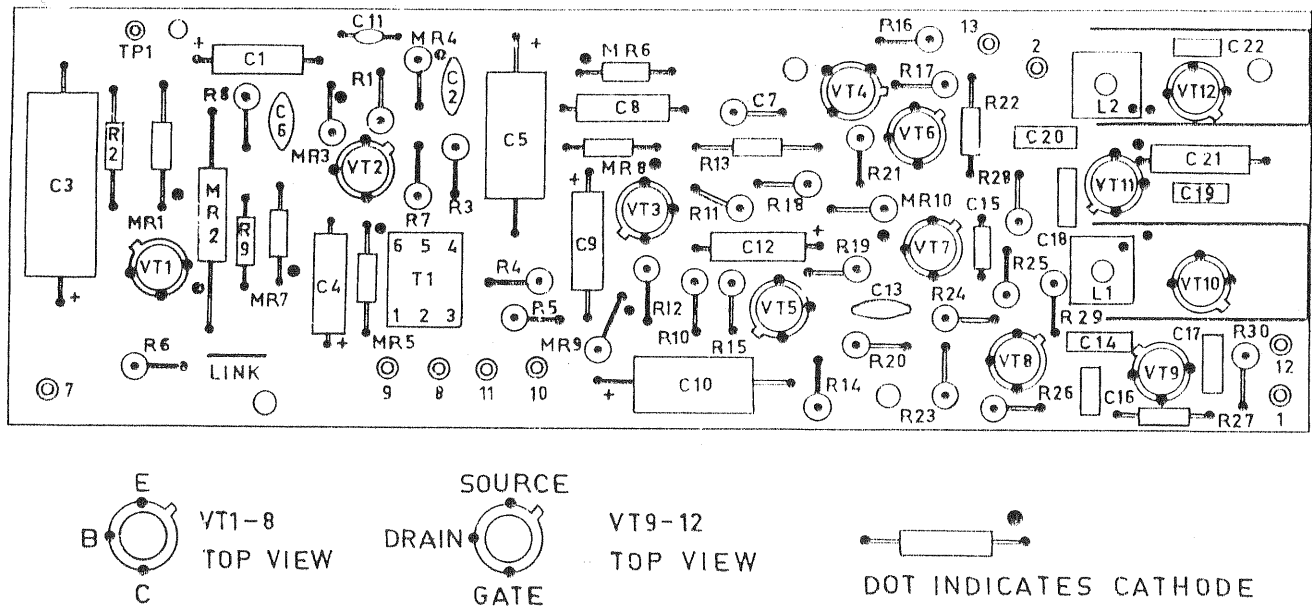

FIG 13 -- SYNTHESIZER GATING BOARD 10-6CB1 -- COMPONENT LAYOUT
**Synthesizer Gating Board 10-6CB1 (See Fig 13)****69. Details of Synthesizer Gating Board are as follows:**
- c. Check wire links and components against Fig 13 paying particular attention to the polarity of rectifiers and electrolytic capacitors.